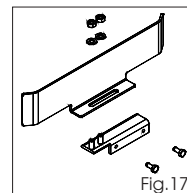

Fig.17
- 1) Fit and secure the 2 profiled steel plates on the 2 U-supports, using the supplied nuts and washers, as shown in figure 17.